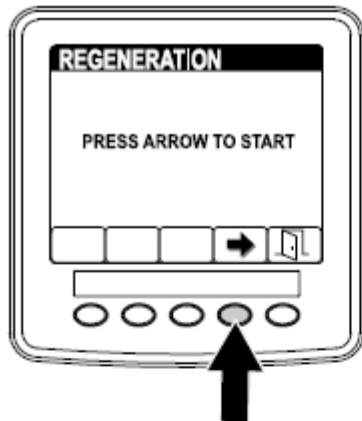

Figure 7
3. On the regeneration screen, press button 4 to start the regeneration process (Figure 7).